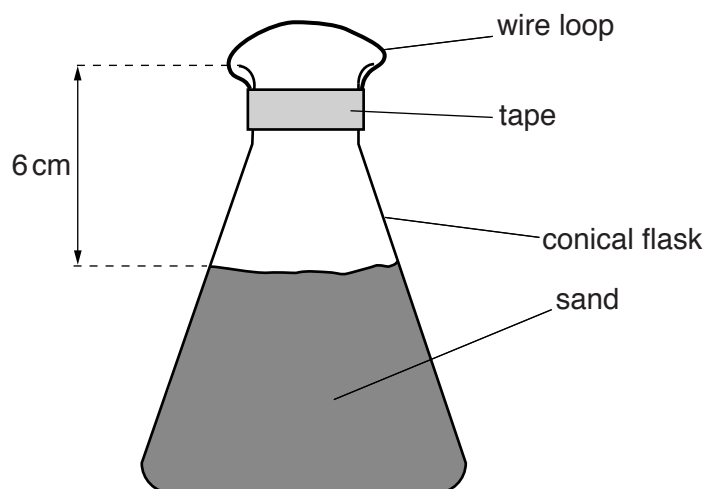

Fig. 1.1
- The flask should have a wire loop attached to its neck with tape or a rubber band, as shown in Fig. 1.1. The loop could be made from an opened-up 3 cm paper clip. Dry sand should be added to a level 6 cm from the top of the flask.